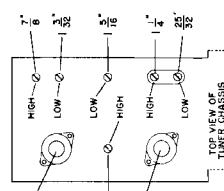

Figure 13
2. Pre-set the trimmers approximately to the dimensions shown in figure 13. Measurements are made from shoulder of screw head to chassis.